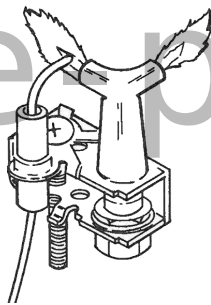

Figure 4
4. Bend the tabs to the ignitor/sensor mounting bracket down and around the pilot bracket frame. Using a pair of pliers, crimp the tabs so they grip the pilot bracket. This will hold the electrode assembly firmly in place as shown in Figure 4.